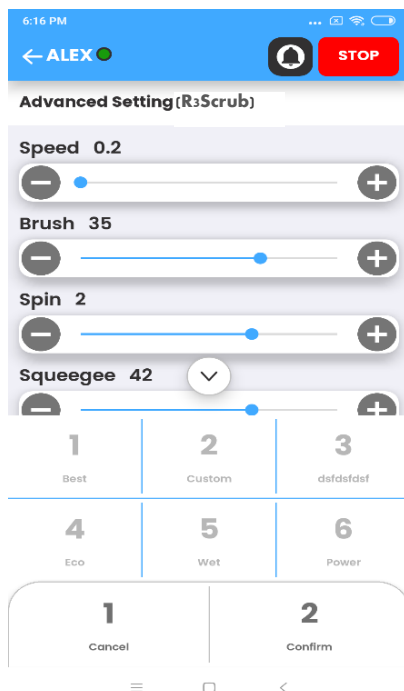
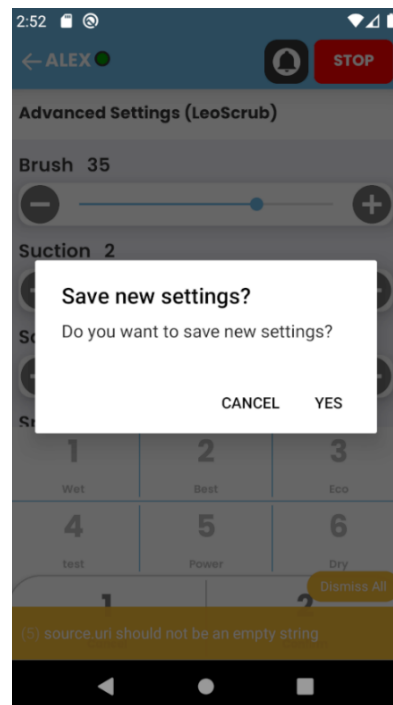

Fig. 7
Fig. 9
7. To change the cleaning settings, click on the 'Settings' button to open the advanced cleaning settings page. Adjust the values of the various cleaning parameters (brush pressure, water flow rate, squeegee pressure, suction power, brush spin rate, robot speed, and cleaning path overlap) as desired (Fig. 7 & 8) and save the settings (Fig. 9).